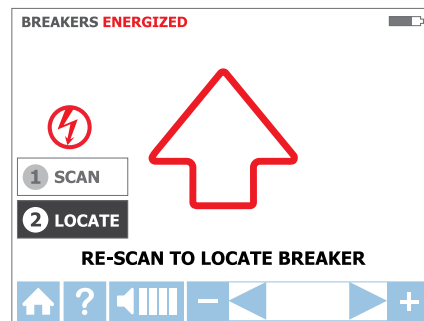
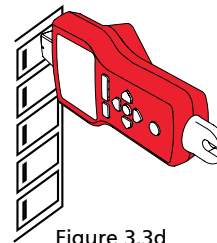

Figure 3.3c
Figure 3.3d
2. Scan each breaker for a half second by touching it with the Tip Sensor. Make sure the groove on the Tip Sensor is parallel to the breaker lengthwise (See Figure 3.3d)
Step 2 - ② LOCATE
1. Select LOCATE mode by using the directional arrows to highlight this operating mode and pressing the yellow "ENTER" button. (See figure 3.3c)
2. Rescan each breaker by touching each with the Tip Sensor for a half second. Active red arrow indicates scanning process (see Figure 3.3c). Make sure the groove on the Tip Sensor is parallel to the breaker lengthwise. (See Figure 3.3d)